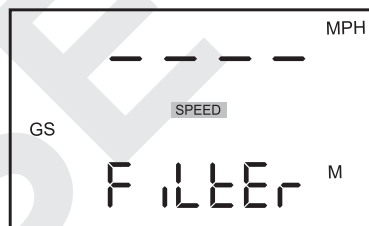

Figure 18: Initial Screen When the Weather Filter is Active
Refer to the instructions and Figure 18 below to activate the Weather Filter.
2. Press the WEATHER FILTER button. The display should look similar to Figure 18.